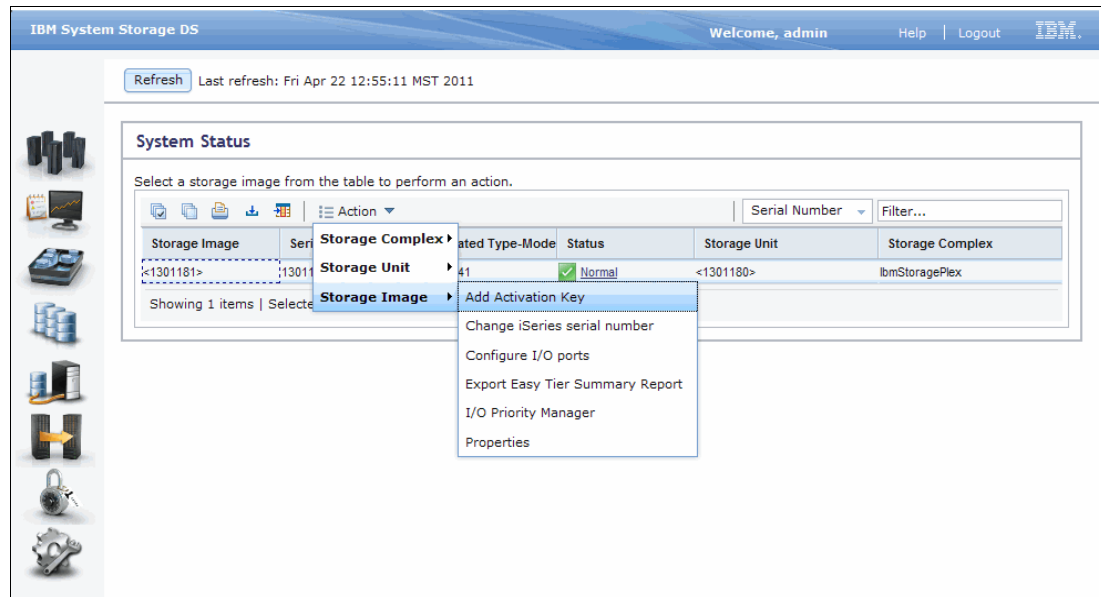

Figure 10-2 DS8000 Storage Manager: Add Activation Key
- Click the Serial number under the **Storage Image** header, then click **Action**. Move your cursor to the **Storage Image** and select **Add Activation Key** (Figure 10-2).